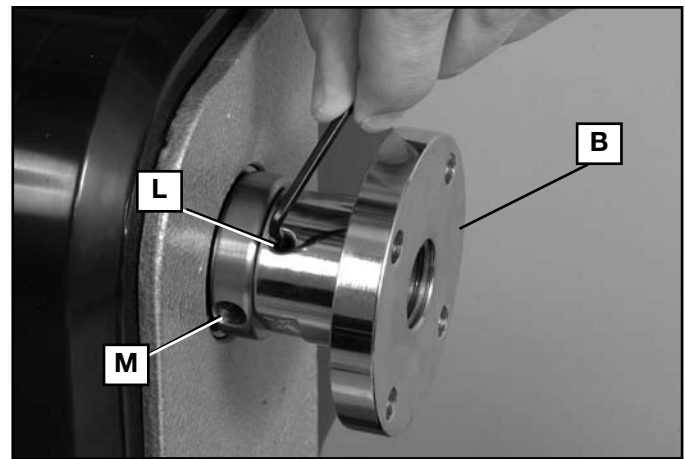
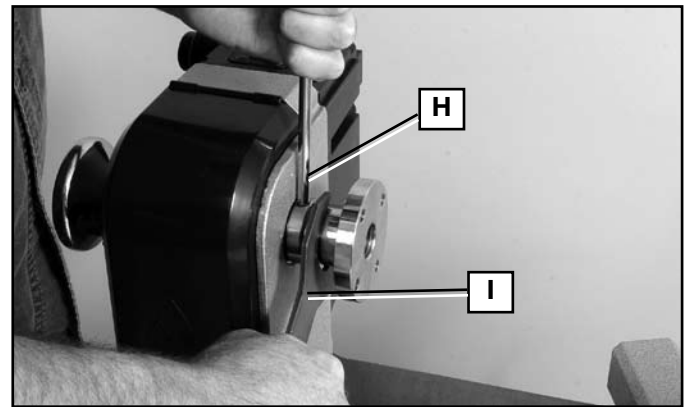
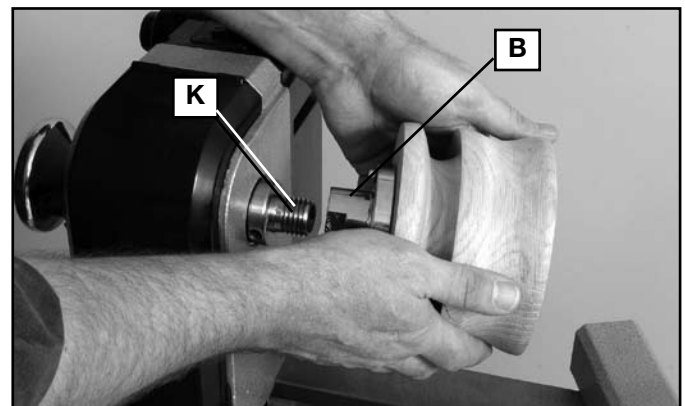

Fig. 2
Fig. 3
Fig. 4
- When using the included 3" (76 mm) faceplate (B) Fig. 2, do not mount pieces larger than 6" (152 mm) in diameter and up to 6" (152 mm) in length. For mounting larger pieces, be sure to use an appropriately sized faceplate.
⚠ WARNING: To reduce the risk of injury, when using the included 3" (76 mm) faceplate (B) Fig. 2, do not mount pieces larger than 6" (152 mm) in diameter and up to 6" (152 mm) in length. For mounting larger pieces, be sure to use an appropriately sized faceplate.
To remove the faceplate, use the included 3 mm hex wrench to unlock the set screws (L) at least two full turns. Place knockout bar (H) Fig. 3 in hole (M) Fig. 2 and place faceplate wrench (I) Fig. 3 on faceplate shoulder flats (as shown in Fig. 3) and turn wrench to loosen faceplate. Once loose, the faceplate (B) Fig. 2 can be unscrewed.
⚠ WARNING: FOR THE DELTA MODEL 46-460 MID-LATHE ONLY: To reduce the risk of injury, if turning in reverse, be sure to tighten the set screws (L) Fig. 2 securely when replacing the faceplate.
To re-attach faceplate (B) Fig. 4, screw it back on to the spindle nose (K) and tighten securely using the knockout bar and wrench as shown in figure 3. Replace set screws (L) Fig. 2 if removed. Tighten set screws securely.